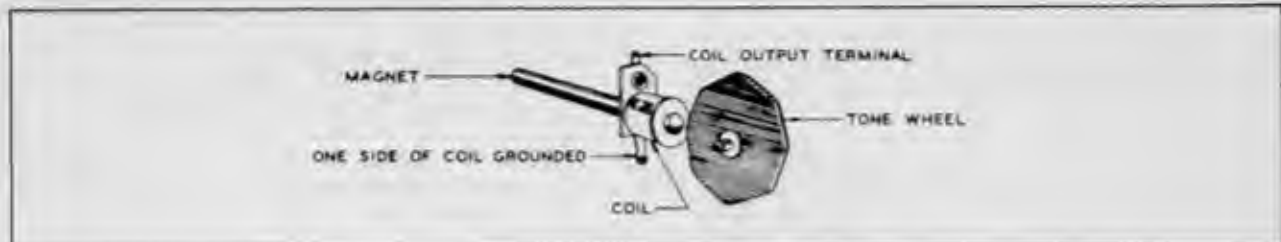

Figure 2-1. Typical Tone Generator
- 2-2 TONE GENERATOR - Electrical impulses of various frequencies are produced in the "tone generator assembly" which contains a number of "tone wheels" driven at predetermined speeds by a motor and gear arrangement. Each tone wheel is a steel disc similar to a gear with high and low spots, or teeth, on its edge. (See Figure 2-1). As the wheel rotates, these teeth pass near a permanent magnet, and the resulting variations in the magnetic field induce a voltage in a coil wound on the magnet. This small voltage, when suitably filtered, produces one note of the musical scale, its pitch or frequency depending on the number of teeth passing the magnet each second.